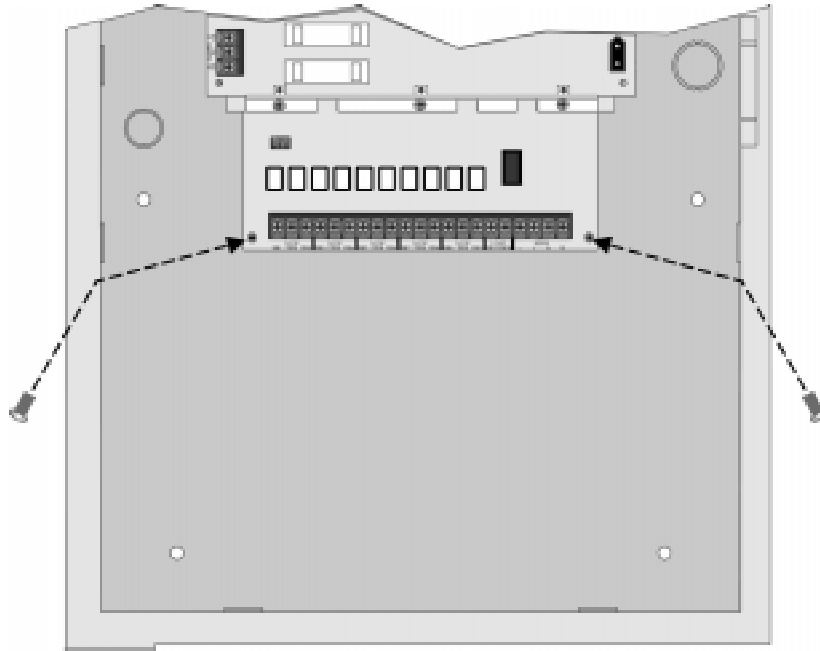

Figure 3-21 Installing the 5217 Into the 5208 Cabinet
2. Mount the SK-5217 onto the standoffs and bracket located in the cabinet. See Figure 3-21.